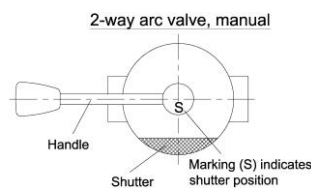

Fig. 1
- With the manual 2-way arc valve, the parallel position of the handle to the valve ports indicates that the valve is open for product flow; the marking (S) on the handle base indicates the shutter position (see Figure 1)